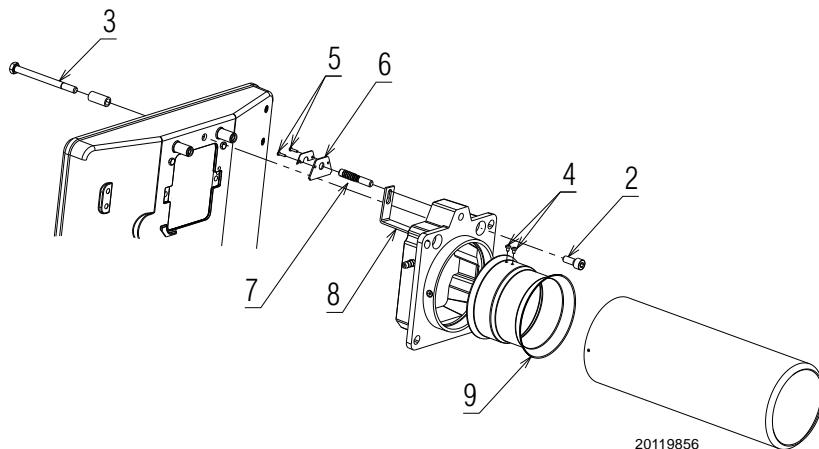

Fig. 3
- Unscrew the two screws 2)(Fig. 3) and the screw 3) to remove the interface assembly;